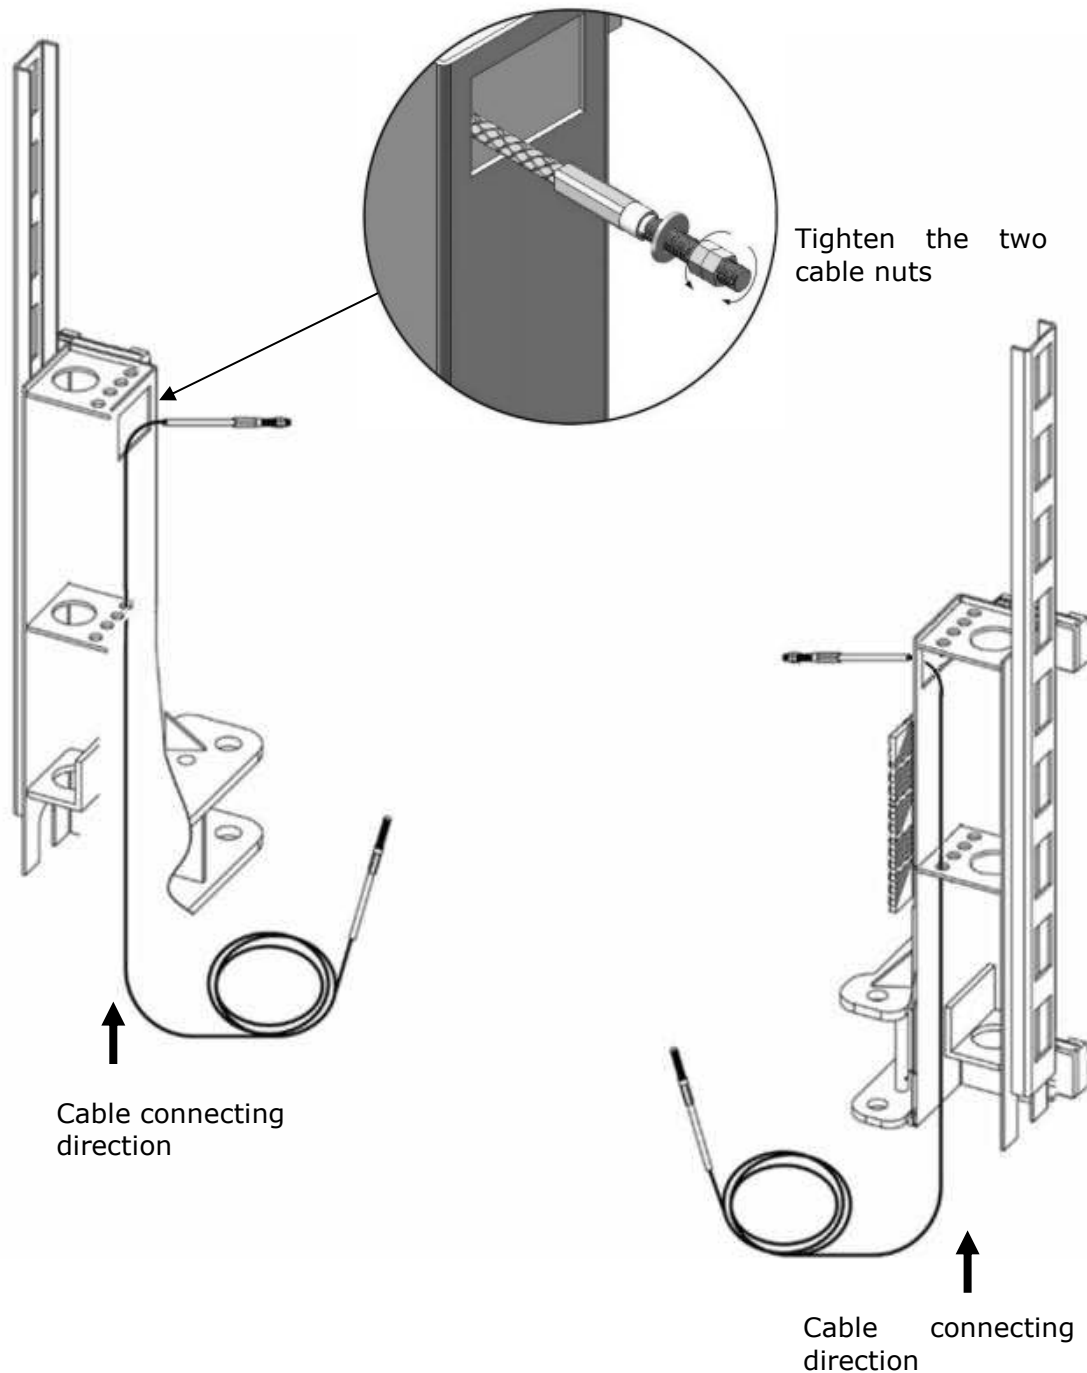

Fig. 29
- 1.1 Take out the carriages plastic cover, cable pass through from the bottom of the carriages and be pulled out from the open of carriages, then screw the two cable nuts (See Fig. 29).